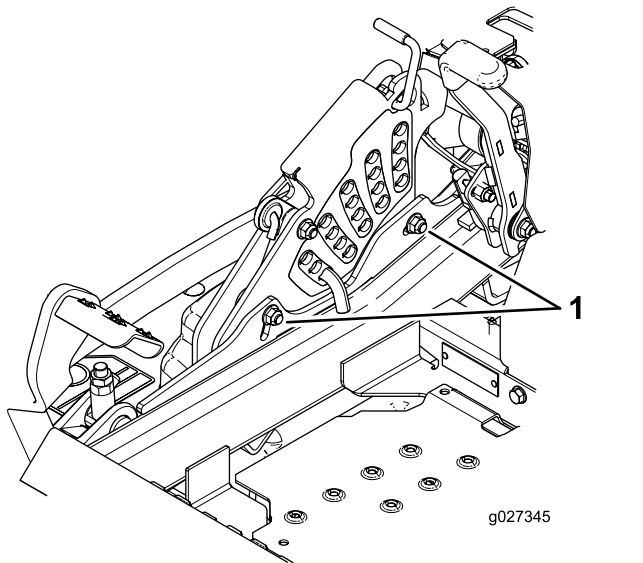

Figure 93
11. To adjust the single-point system, loosen the 2 bolts at the bottom of the height-of-cut plate (Figure 93).
13. Tighten the 2 bolts at the bottom of the height-of-cut plate (Figure 93).